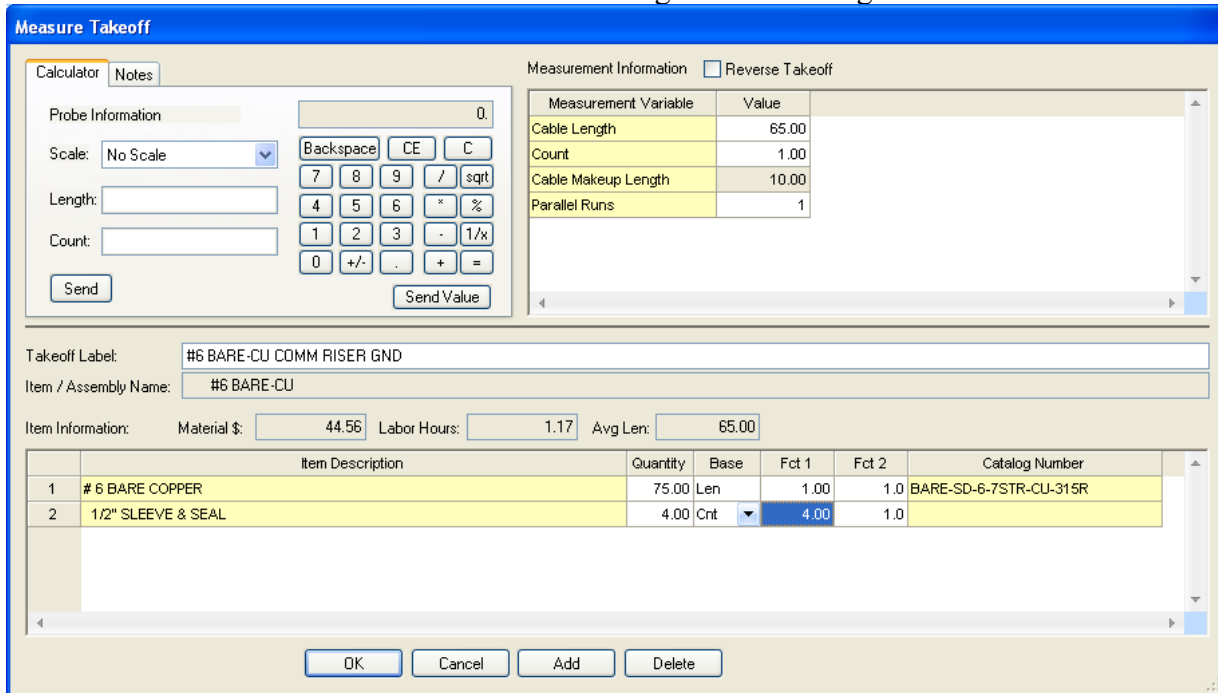

Figure 15
25. In the Measure Takeoff window make the changes shown in Figure 15 and click OK.